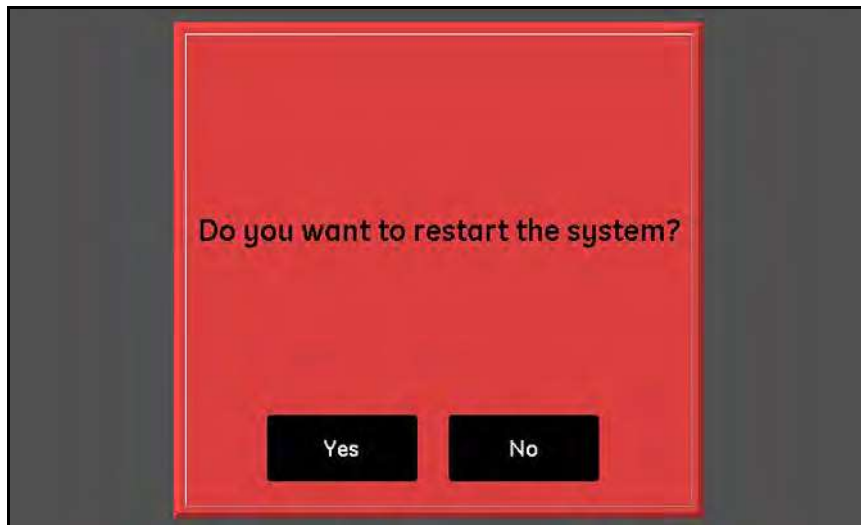

Figure 28: Restart Confirmation Screen
3. At the confirmation screen shown in *Figure 28* below, tap the **Yes** button to restart the unit or tap the **No** button to cancel the request.
To restart (i.e., reboot) the moisture.IQ system, tap the **Restart** button. Then, tap either **Yes** or **No** at a confirmation screen similar to the one shown in *Figure 28 on page 32*.